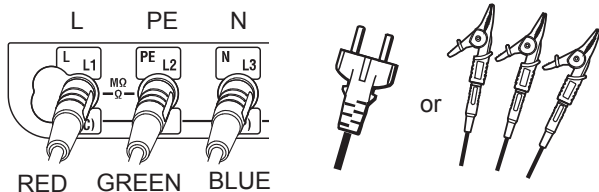
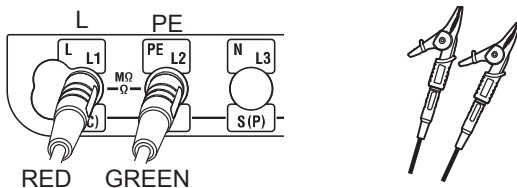

Fig. 10-17 For L-PE 3-wire test
Fig. 10-18 For L-PE 2-wire test
- (1) Press the Power switch and turn on the instrument. Turn the rotary switch and set it to the LOOP ATT position.
(2) Connect the test lead to the instrument. (Fig. 10-17 or Fig. 10-18)